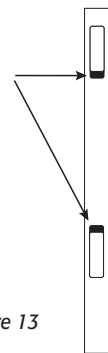

Figure 13
- Enlarge post holes (Fig. 13)